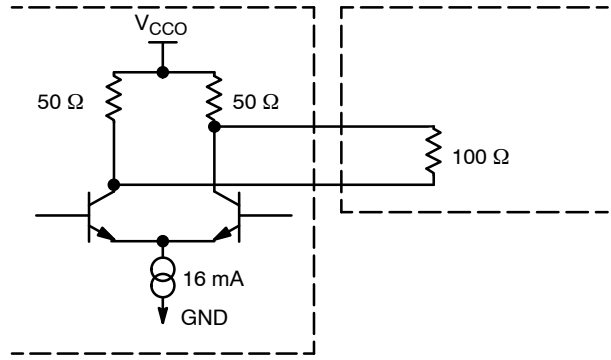

Figure 10. Alternative Output Termination
**CML OUTPUTS** (Notes 5 and 6) (Figure 10)